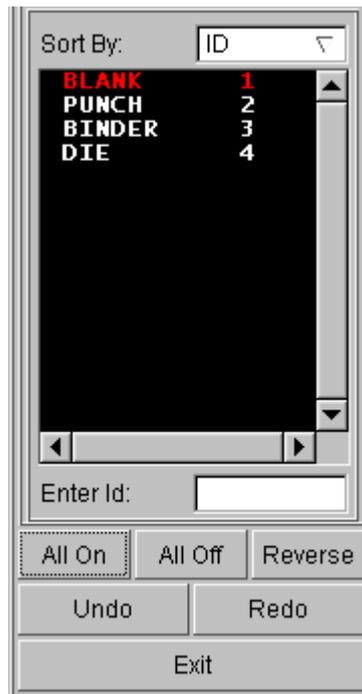

Figure 2.48 Turn parts on/off dialog box
4. In Part Operation dialog, use your mouse cursor to click on all the parts, excluding BLANK, as illustrated in Figure 2.48. All the tools are hidden from the display area. Then, click **Exit** button to dismiss the dialog box.